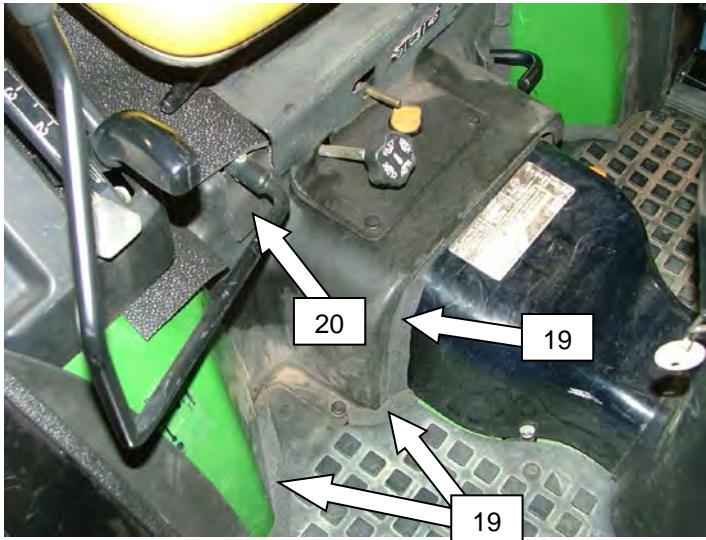

Figure 23
43. Cut to fit, flap seal (20) and foam (19) into locations to help seal cab **(Figures 23 and 24)**.